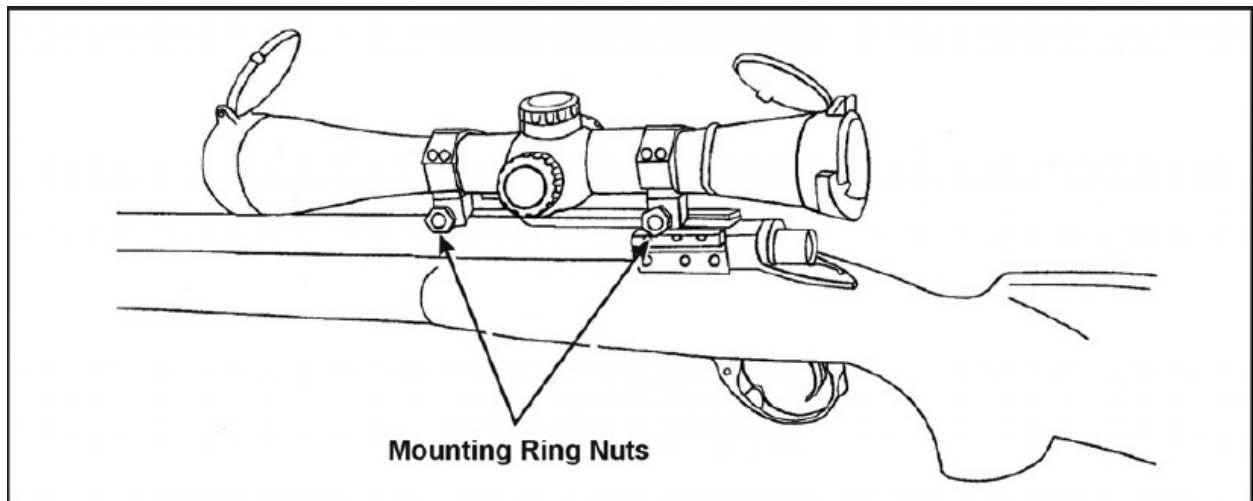

Figure 2-28. Location of the mounting ring nuts on the M24 SWS
- Loosen the two mounting ring nuts (Figure 2-28) on the telescope and remove the telescope. (Not necessary when only cleaning the weapon.)